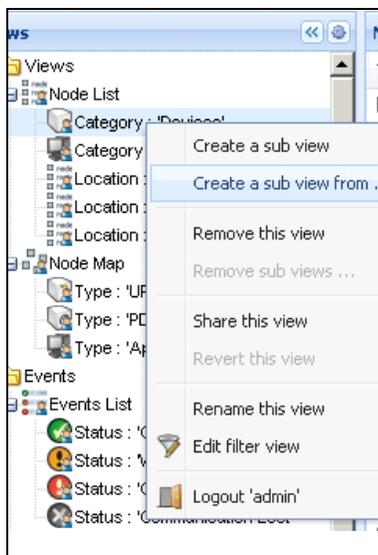

Figure 53. Contextual Subview Menu
2. Right-click this selection. The contextual subview menu displays (see Figure 53).
2. Right-click this selection. The contextual menu subviews displays (see Figure 53).